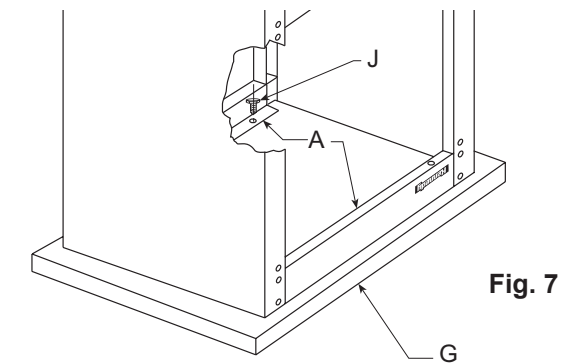

Fig. 7
4. Place frame assembly on pressboard top, aligning rail holes over drilled holes. Attach frame with four (J) hex screws as shown in Fig. 7.